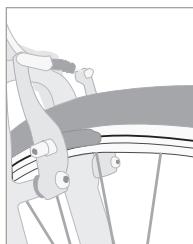

FIGURE 3.27
- Aluminum rims: A shallow groove is found around the rim (Figure 3.27). If the outer rim surface is worn such that the groove is no longer visible in any spot, replace the rim.